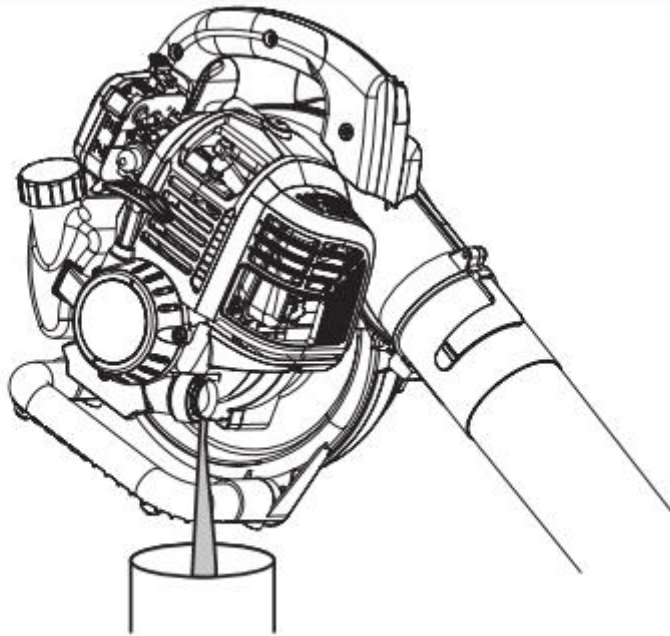

Fig. 11
- 3) Tip the unit vertically to pour the oil out of the oil fill hole and into a container (Fig. 11). Allow ample time for complete drainage.